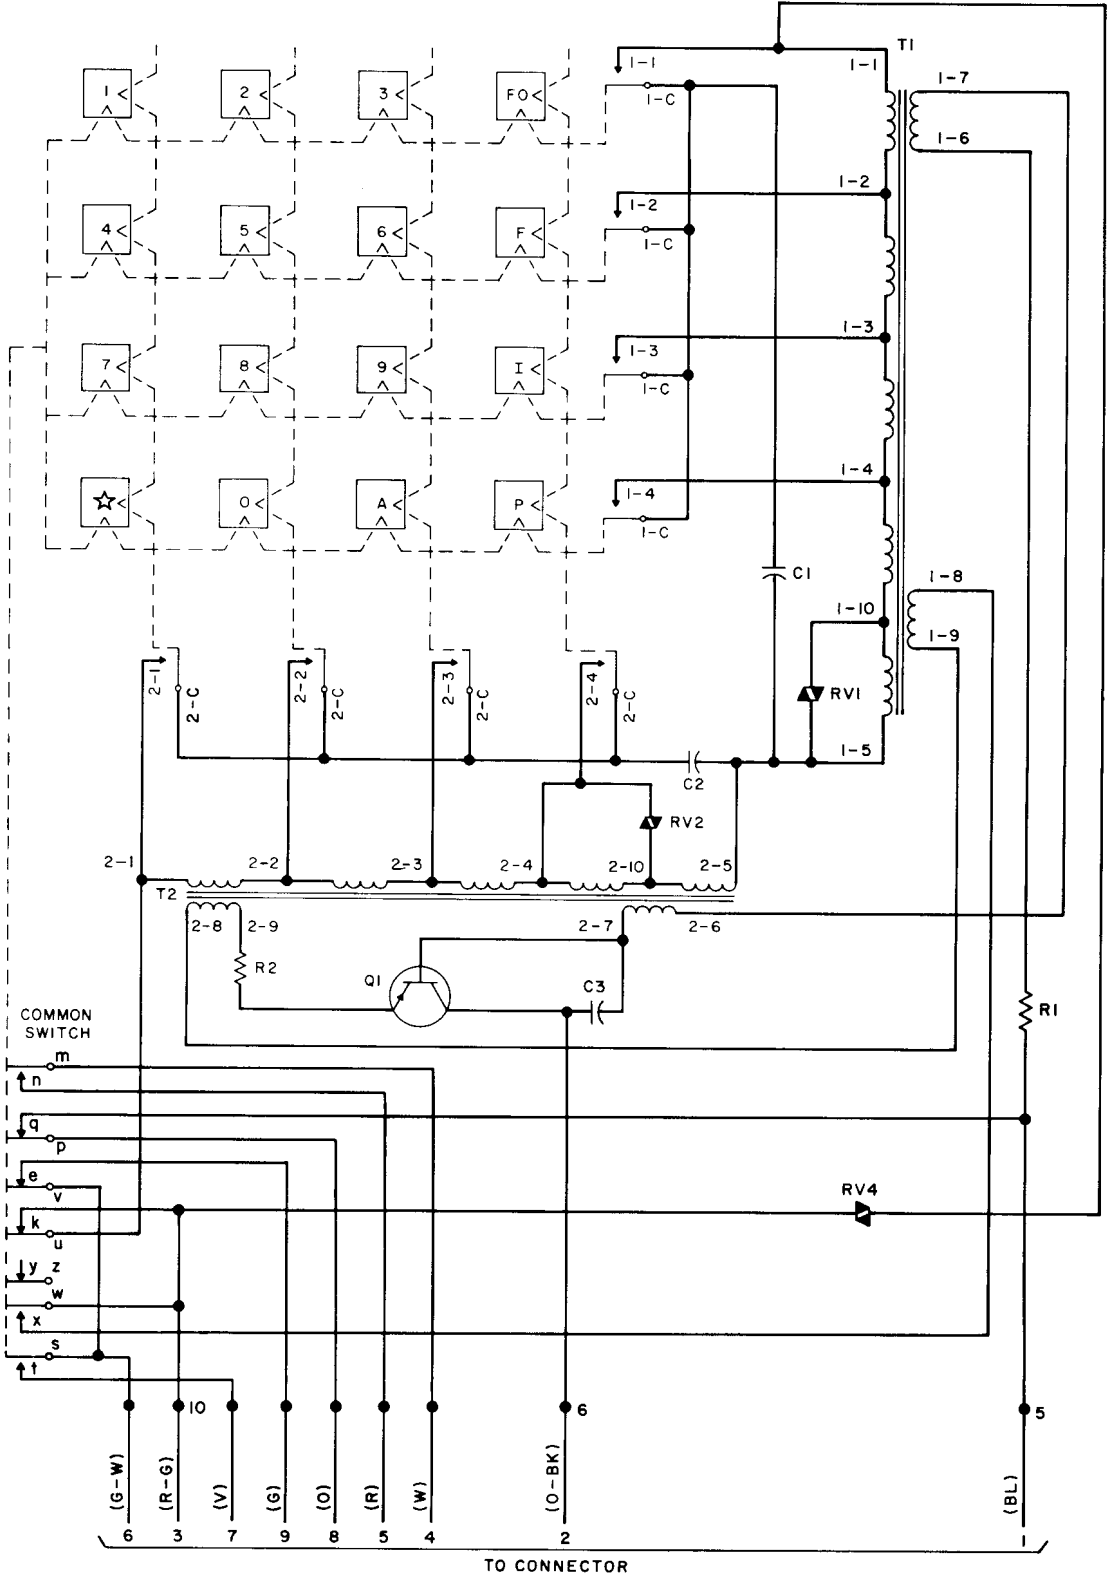

Fig. 13 — 66D3A Dial — Wiring Schematic
- Fig. 13 — 66D3A Dial — Wiring Schematic